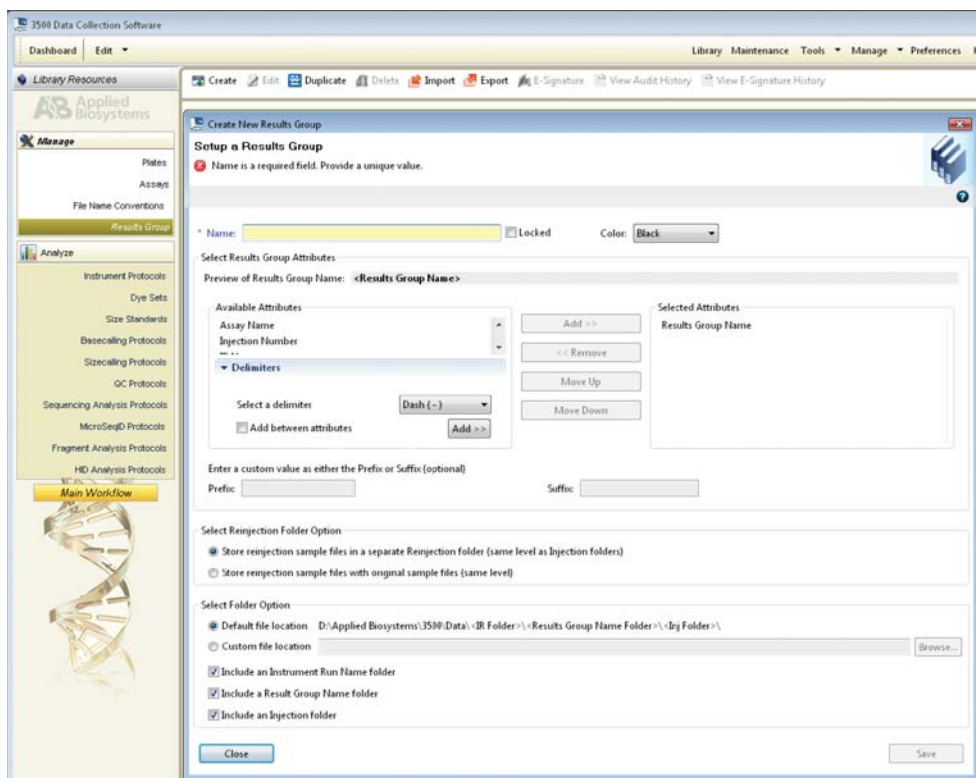

Figure 8. The Create New Results Group window.
- f. To create a new Results Group (Figure 8), navigate to the Library. Select “Results Group”, then select “Create”. Alternatively, a previously created Results Groups may be used.